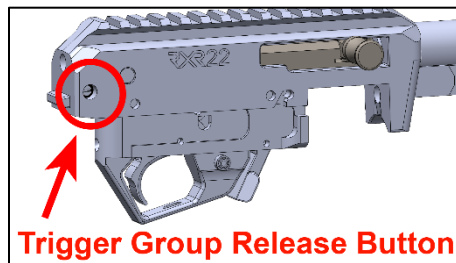

Figure 25
- Using a small punch, depress the trigger group release button on the right side at the rear of the receiver – Figure 25. This will allow the rear of the trigger group to swing down from the receiver.